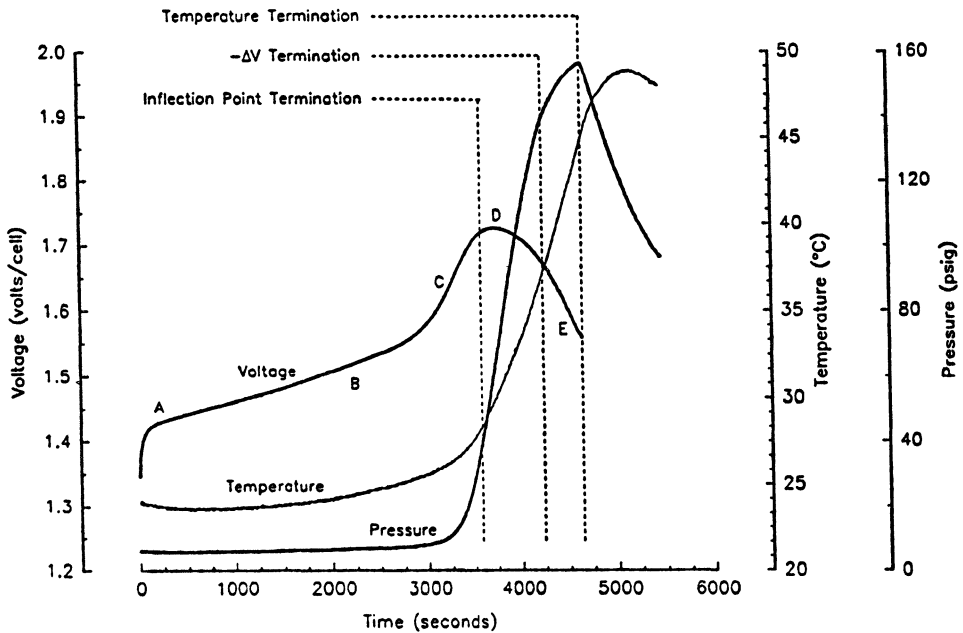

Figure 1
When fast charging sealed consumer cell batteries two internal characteristics provide the necessary information for charge termination - battery voltage and temperature. The absolute value of both of these variables change when the battery is under charge. Cell voltage and temperature can be measured externally to provide termination data. A summary of several termination approaches for voltage and temperature is germane to this primer. Figure 1 compares voltage and temperature termination to internal cell temperature and pressure when fast charging. (Notice the rapid rise in the temperature and pressure component after the voltage inflection point.)**
** Data for Figure 1 has been accumulated over the past 2 years by testing a large variety of rapid and standard charge batteries from a number of manufacturers. The pressure and temperature data is actual and was acquired using pressure transducers inserted in the battery and temperature sensors in the pack.